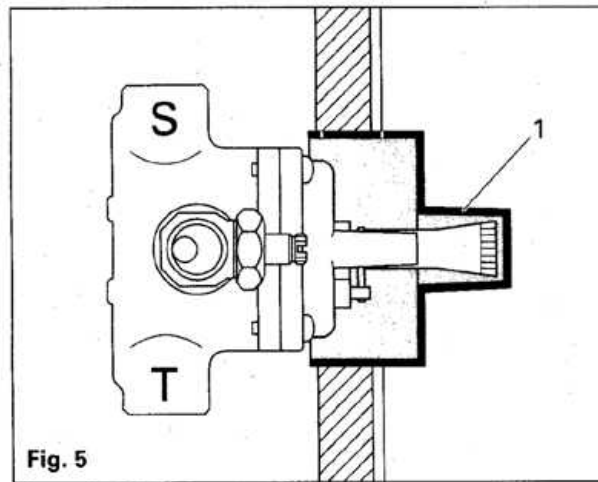

Fig. 5
Finish wall template (1) must remain intact for finished wall surface measurements and as a template for plastering and/or tiling (see Fig. 5).